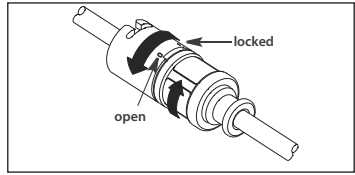

Figure 6
- b. If using a catheter contamination shield with a TwistLock adapter, twist the upper half of the distal hub in clockwise direction to lock catheter in place. Reposition proximal end of catheter shield as desired. Twist upper and lower halves in opposite directions to lock in place. Test the adapter by gently tugging on the catheter to ensure a secure grip on the catheter (refer to Figure 6).